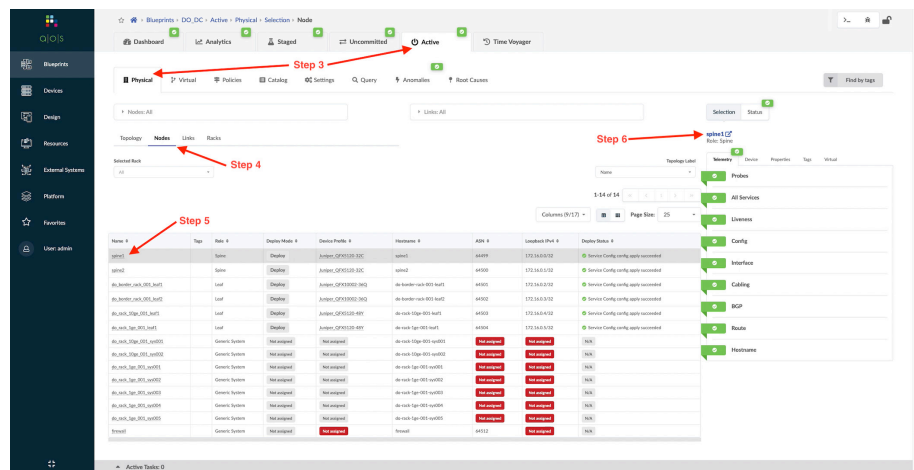

Figure 7.28 Verifying a Configlet Has Been Applied
Step 3: Go to Active > Physical. See Figure 7.28.